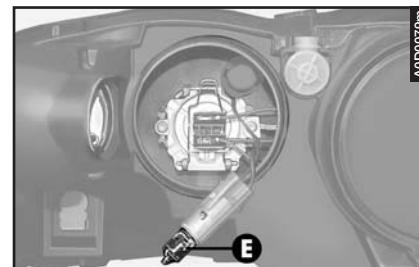

fig. 47
- Remove the bulb (**E-fig. 47**) from the bulb holder, pushing it slightly and turning it counter-clockwise.